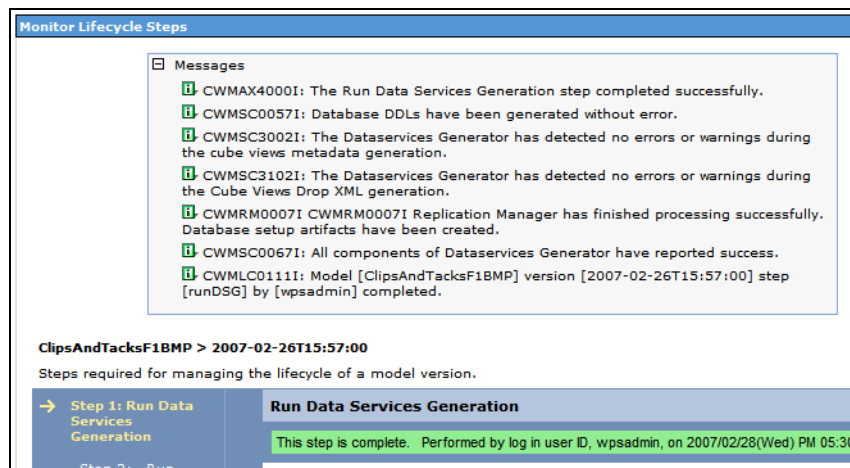

Figure 14-8 Monitor life cycle: Step 1 completed
- Verify that the step completed successfully (Figure 14-8).